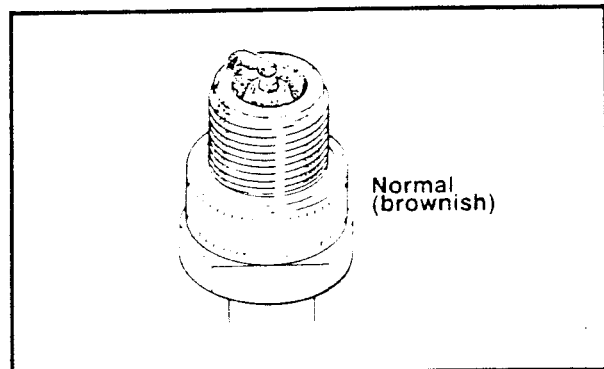

Figure 4-17. Spark Plug Normal
- See Figure 4-17. A brownish tip reflects ideal conditions.